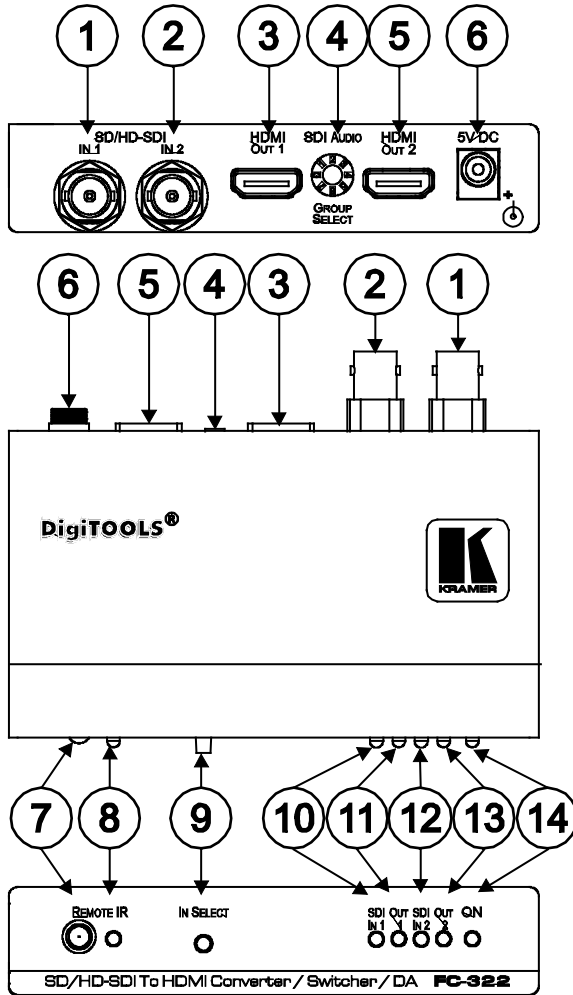

Figure 1: FC-322 SD/HD-SDI to HDMI Converter/Switcher/DA
*Figure 1 and Table 1 define the FC-322 SD/HD-SDI to HDMI Converter/Switcher/DA:*